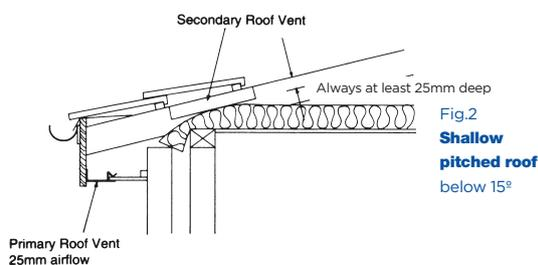

Fig.2
- With a pitched roof where the pitch of the roof is less than 15 degrees and the roof space is an attic or loft a free airflow is required which is equivalent to a continuous 25mm opening (25,000² mm per metre run). See fig. 2
- With a pitched roof where the pitch of the roof is less than 15 degrees and the roof space is an attic or loft a ventilation channel at least 25mm deep must be maintained between the roof insulation and the underside of the roof covering. See fig. 2